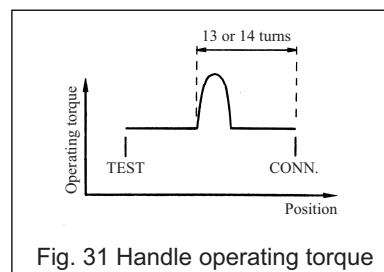

Fig. 31 Handle operating torque
- When the main contact starts engaging, the force required to turn the handle will increase as shown in Fig. 31. This symptom does not mean a malfunction. Continue to turn the handle. Rotating the handle more 13 or 14 turns moves the breaker body to the CONN. position, where the handle cannot be turned with its max. operating torque.